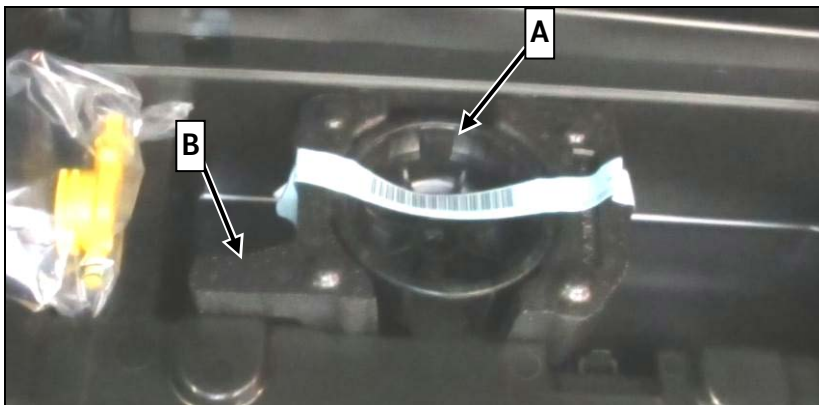

Figure 1
- 1.1. Check whether wheel wrench (A, figure 1) and holder (B, figure 1) for wheel wrench **are** present.